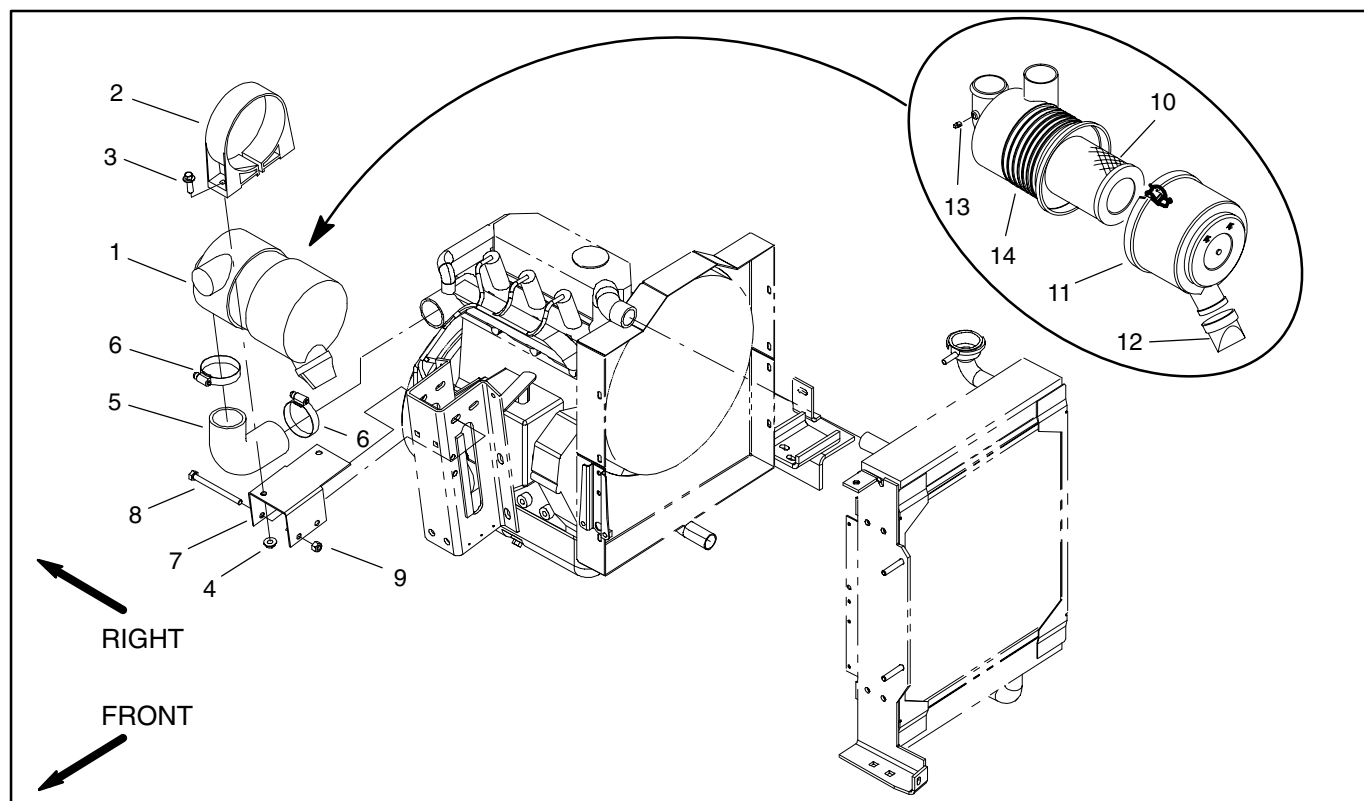

Figure 7
1. Remove air cleaner components as needed using Figure 7 as a guide.
1. Reassemble air cleaner system using Figure 7 as a guide.